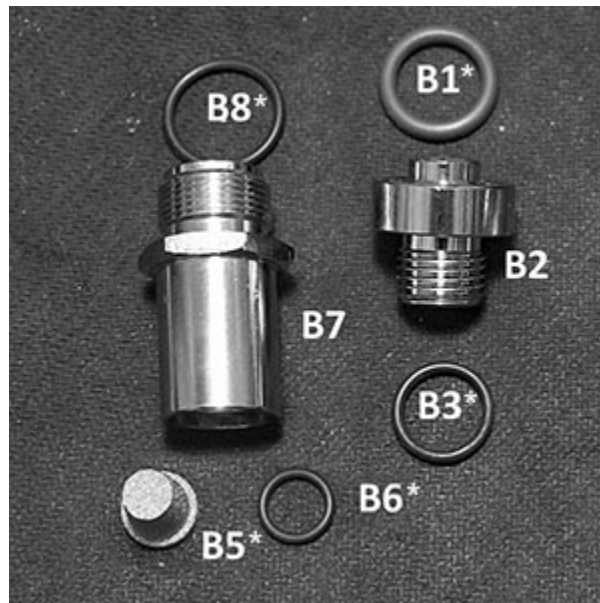

Fig. 10
5. Remove the O- ring (B8\*) from the DIN Housing, the DIN Retainer O-rings (B1\*, B3\*), and remove the DIN Filter and its O-ring (B6\*) from the DIN Housing - Fig. 10.